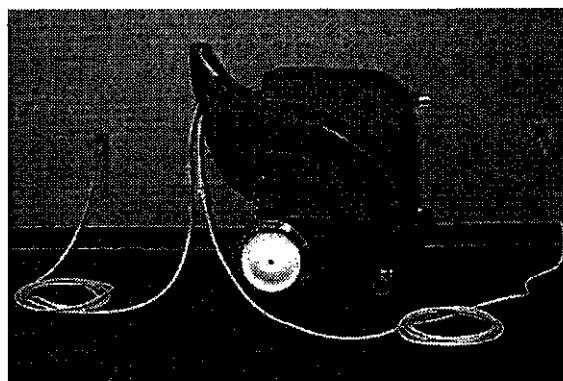

FIG. 2
6. Plug each extension cord into separate grounded circuits. Circuit indicator lamp (green) will light when cords are on separate circuits (Figure 2).